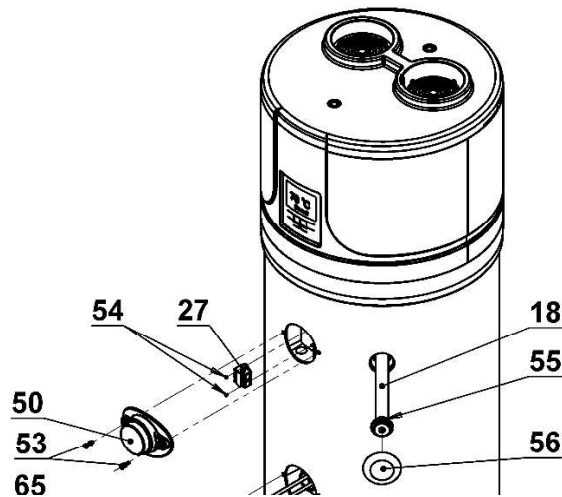

Fig. 14
10.1. Resetting of safety thermostat 27 (Fig.14)
- Remove the plastic cover 50 by undoing the appropriate locking screws 53 (**Fig. 14**);
- Manually reset the safety thermostat 27 (**Fig. 14**).
10.4. Magnesium anodes 18. (Fig.14)